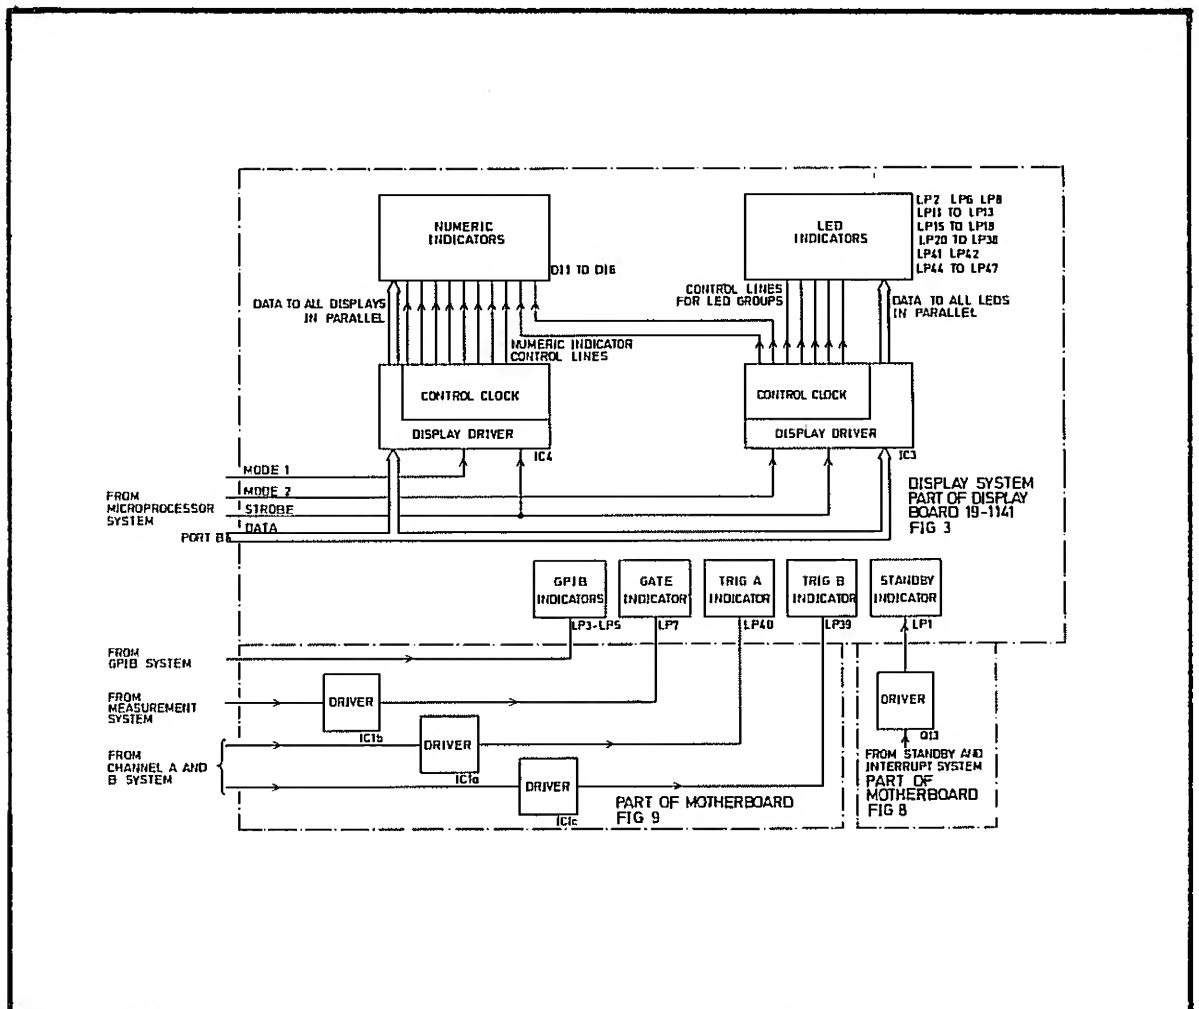

Fig 6.6 The Display System
- 52 A block diagram of the system is given in Fig 6.6. The GPIB indicators, the GATE indicator, the channel A and channel B TRIGGER indicators and the STANDBY indicator are held on or off by control signals from other systems. The remainder of the display is multiplexed under the control of the display drivers.